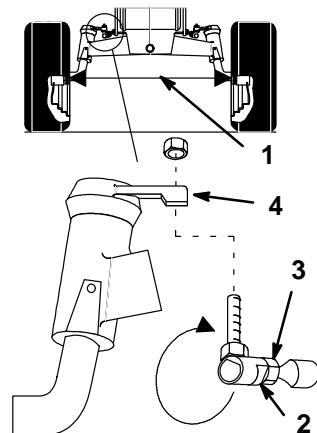

Figure 32
Maintain toe-in of the front wheels as specified. If uneven tire wear, lawn scuffing or hard steering develop adjustment may be required. Check the toe-in after every 100 operating hours or yearly, whichever occurs first (Fig. 32).
3. Measure, between the rims, at spindle level, in the front and rear of the wheels (Fig. 32).
2. Remove ball joint from one steering lever (Fig. 32).
4. Hold flats on ball joint to align with flats on tie rod and tighten jam nut (Fig.32 ).